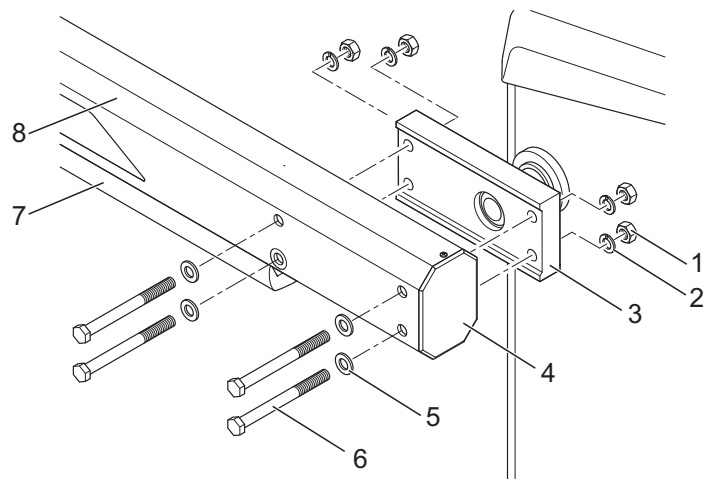

Fig. 29: Mount barrier boom
6. Remove barrier boom. → See page 65, Fig. 29.